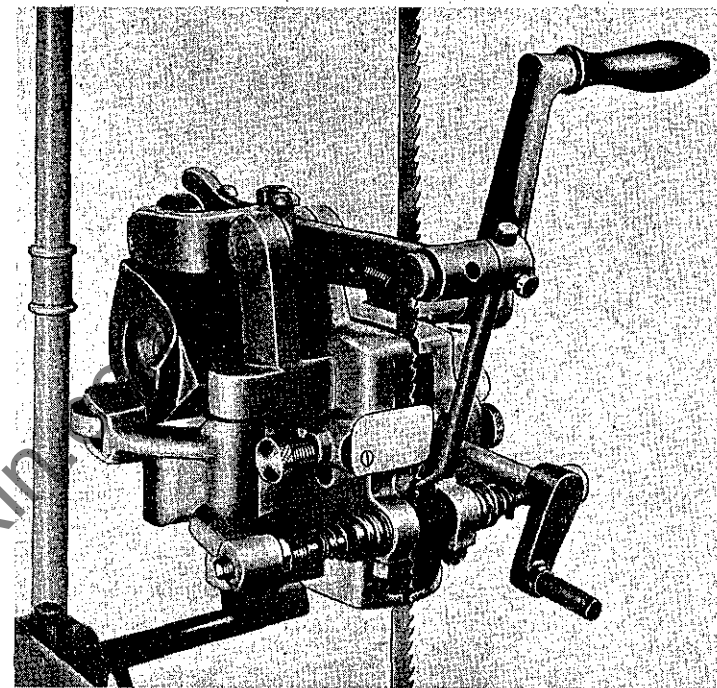

FIG. 12
- (1) The use of a hand setting tool of the plier type.
- (2) Machine setting. A setting attachment can be supplied to special order for fitting to the standard filing machine as shown in Fig. 12. Also recommended is the separate inexpensive setting machine as described on page 16. A feature of this machine is that the strikers which push the teeth over, are arranged on opposite sides of the blade, and strike adjacent teeth simultaneously. In this way the shock of the two strikers cancel each other out, and does not damage the body of the band ribbon.
A setting attachment can be supplied to special order for fitting to the machine as shown in Fig. 12. Band saws of any length up to 2" wide and $\frac{5}{8}$ " pitch can be set using the attachment.